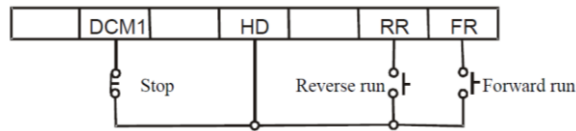

Figure 6-4 Operation signal hold circuit
- (1) To use a push-button switch or other momentary contact to control operation, wire the circuit as shown in Figure 6-4 and set the appropriate function codes (codes related to the multifunctional input terminals and F1101 = 2).